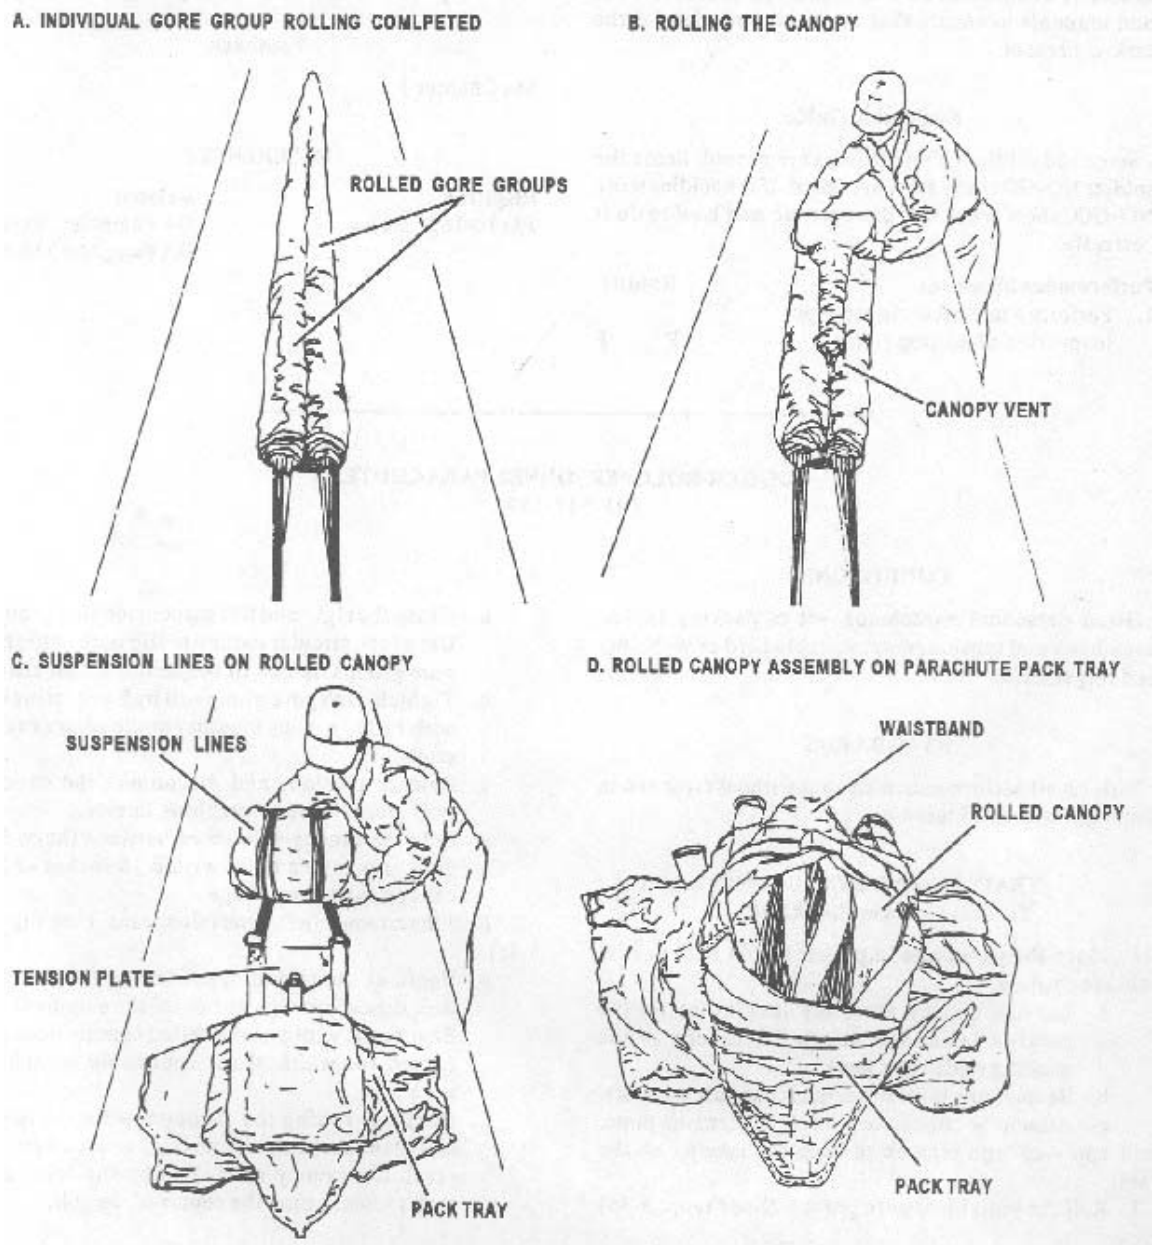

Figure 3-45 Parachute canopy assembly rigger-rolled
2. Roll the individual gore groups. (See Figure 3-45)
3. Roll the canopy and suspension lines. (See Figure 3-45)
4. Secure the rolled canopy assembly within the pack tray by using the straps or webbing of the pack or a length of suitable cord. (See Figure 3-45)